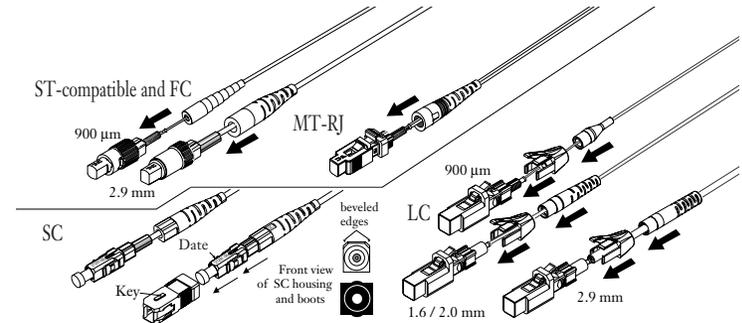

Figure 12
12. Depending on the connector type, add the appropriate hardware, additional strain relief, and connector boots (Figure 12).